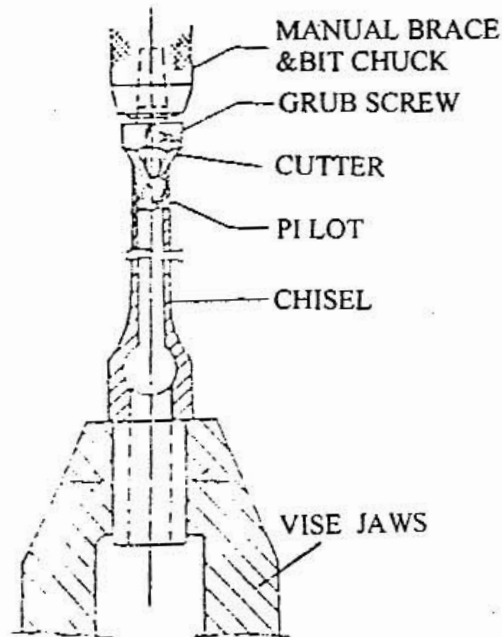

FIG. 4 SHARPENING THE CHISEL
- c) Fit cutter into brace and place it to end of the chisel as shown in Fig. 4. Please fit correct pilot in cutter and tighten grub screw.
- e) If you have no sharpening tool as shown in Fig. 4, a tapered sand